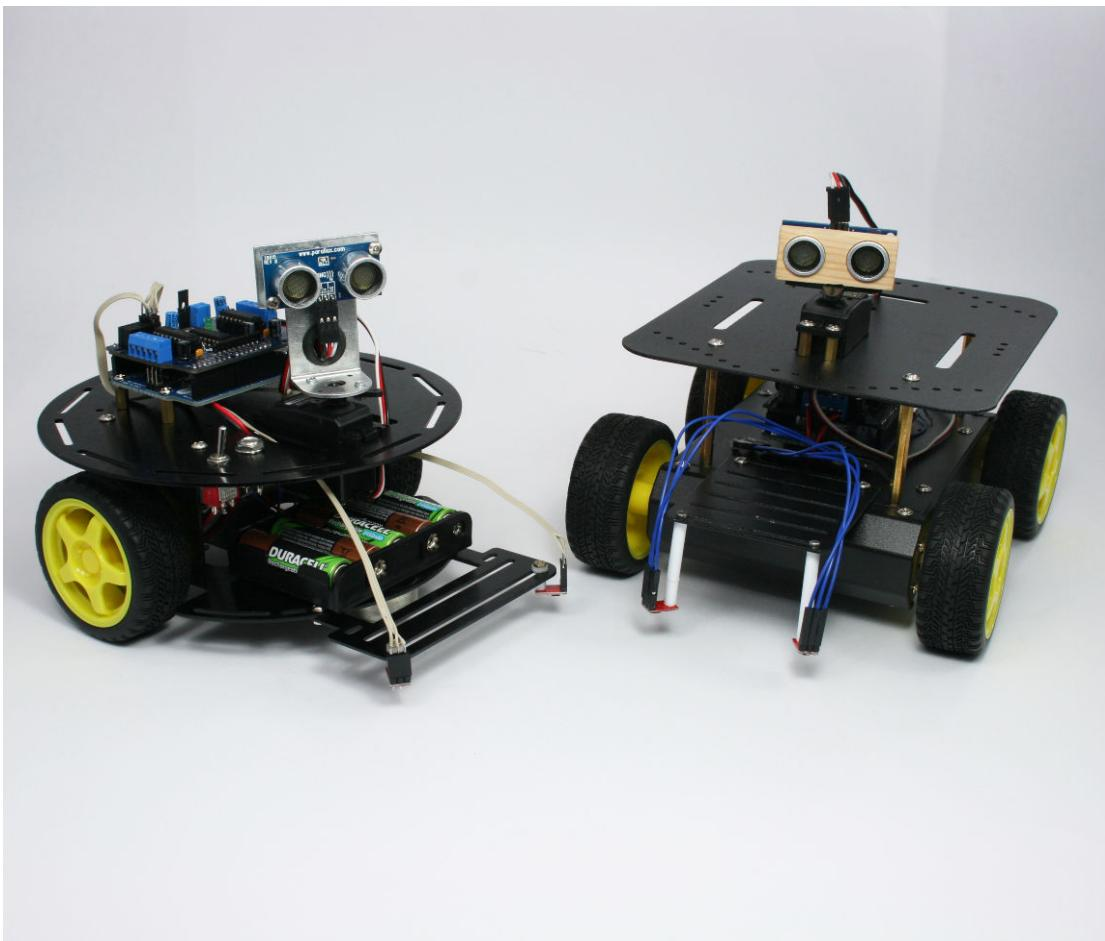

Figure 1-5. Two wheeled and four wheeled robots with distance scanners
- Enabling the robot to look around—scanning using a servo so the robot can choose the best direction to move, as shown in Figure 1-5.